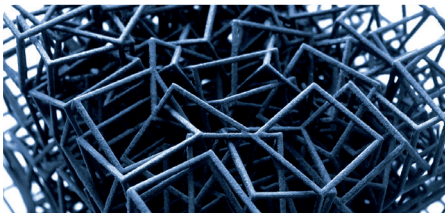

Figure 3.7: Model printed with Material Jetting process
Material Jetting is a 3D printing method where liquid or molten build materials are jetted through several jet heads. As each layer is deposited, ultraviolet (UV) light cures liquid photopolymers. This device allows the simultaneous layering of several materials so that a single part can be made from materials with different properties. Material Jetting produces precise, smooth, 3D-printed items. Figure 3.7 shows a complex cubical model printed with material jetting.